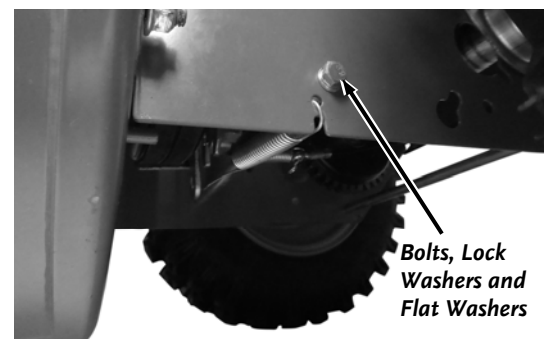

Figure 60
8. Remove the Bolts, Lock Washers and Flat Washers that secures the front Strut to the Frame (**Figure 60**). The Friction Disc Bracket will now move out of the way enough for Belt removal.